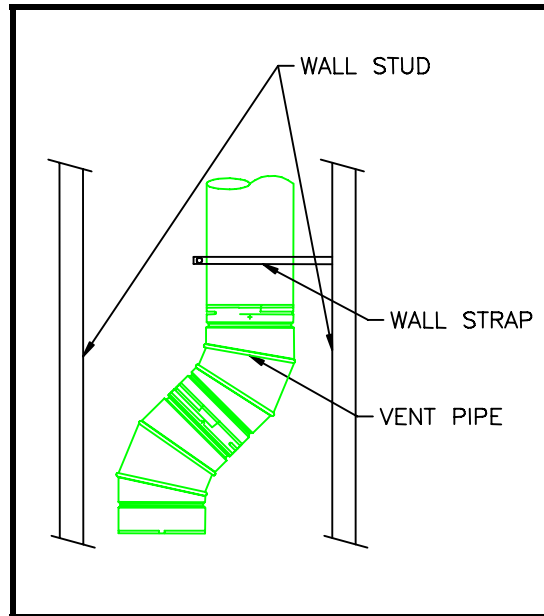

Figure 8: Installing Pipe Supports
1. Attached the first piece piping (elbow or straight pipe) to the pipe connector located above the fireplace. (Secure first section of pipe to damper colar with three (3) Srews).
3. Where necessary add support brackets. Refer to the Figure 8. **Incline runs must be supported every 3 feet.** Vertical runs must be supported every 8 feet, using wall straps. Slip wall straps loosely on to pipe. Attach straps to framing members using nails or screws. Tighten nut/bolt to secure pipe.